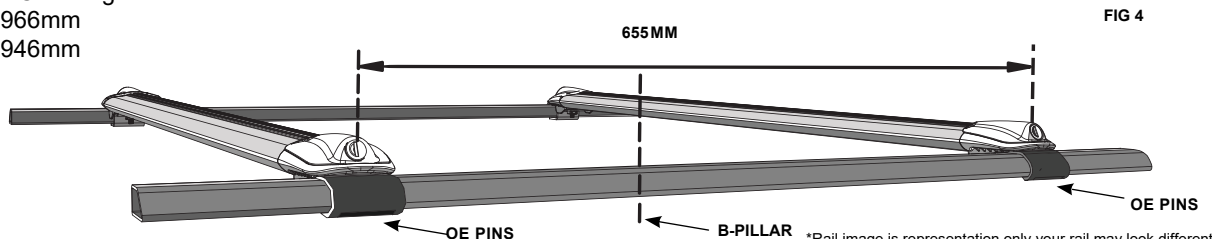

FIG 4
5. Place the Cross Bars on the vehicle rails where the OE mounting pins are located (Fig 4).
7. As you push the Bottom Strap upward, introduce the Star Head Bolt through the End Support & Straps. Using the T-Handle provided, fasten the Straps together - ensuring they are fixed in the correct positions along the rail as specified in (Fig. 4) on the first page. Gradually tighten bolts alternatively ensuring Straps are properly engaged, until even tensioning is achieved.